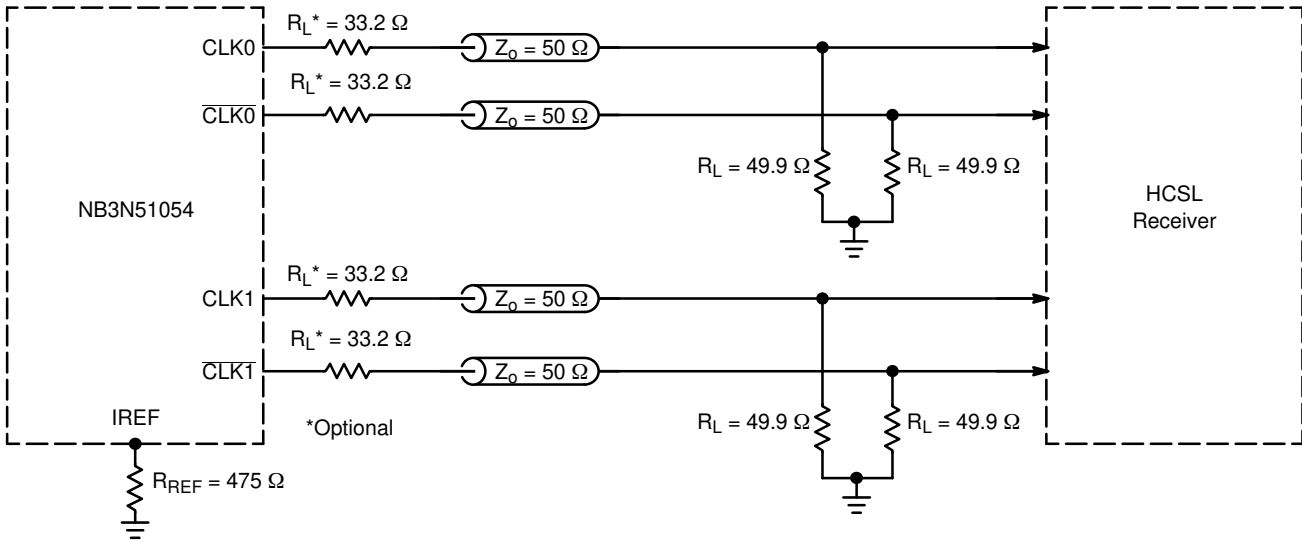
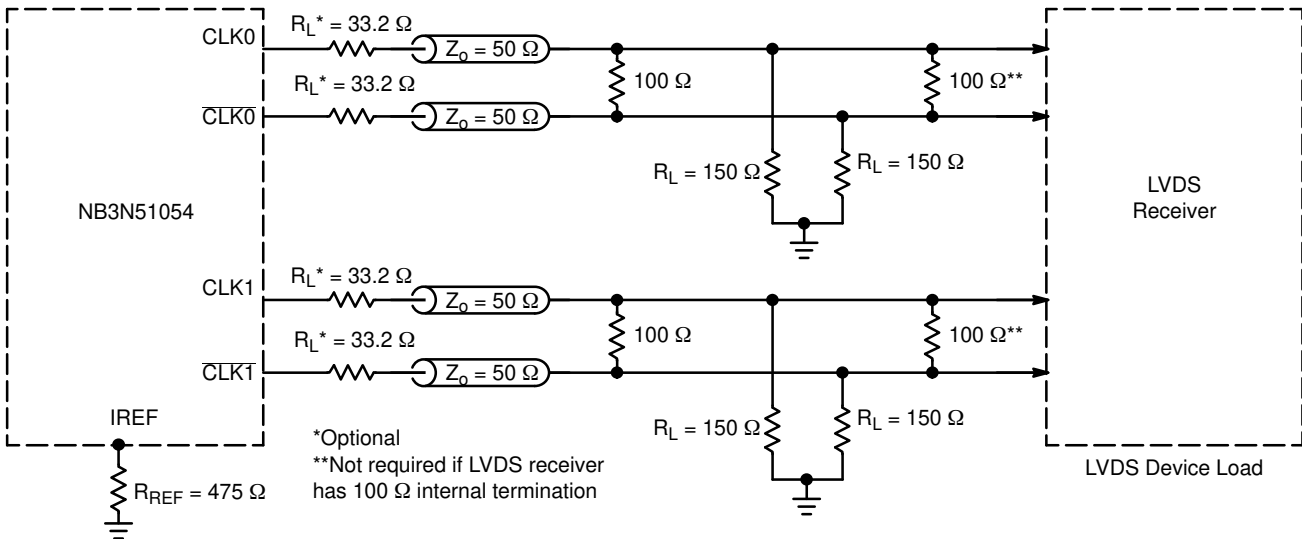

Figure 6. Typical Termination for HCSL Output Driver and Device Evaluation
Figure 7. Typical Termination for LVDS Device Load
- Measurement taken with outputs terminated with RS = 33.2 Ω, RL = 49.9 Ω, with test load capacitance of 2 pF and current biasing resistor set at RREF = 475 Ω. See Figure 6. Guaranteed by characterization.
9. Measurement taken from differential output on single-ended channel terminated with  $R_S = 33.2 \Omega$ ,  $R_L = 49.9 \Omega$ , with test load capacitance of 2 pF and current biasing resistor set at  $R_{REF} = 475 \Omega$ . See Figure 6. Guaranteed by characterization.
14. Measurement taken from differential output on single-ended channel terminated with  $R_S = 33.2\ \Omega$ ,  $R_L = 49.9\ \Omega$ , with test load capacitance of 2 pF and current biasing resistor set at  $R_{REF} = 475\ \Omega$ . See Figure 6. This parameter is guaranteed by characterization. Not tested in production
The outputs can be terminated to drive HCSL receiver (see Figure 6) or LVDS receiver (see Figure 7). HCSL output interface requires 49.9  $\Omega$  termination resistors to GND for generating the output levels. LVDS output interface may not